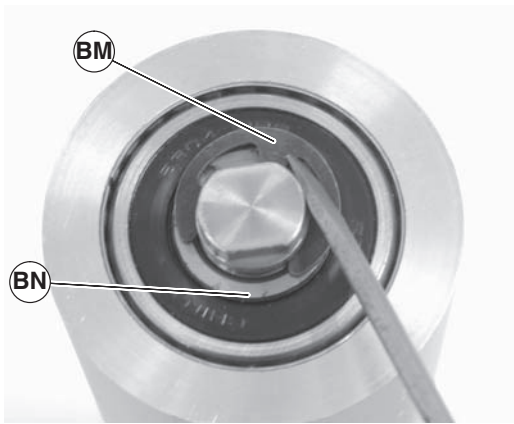

Figure 57
- Remove the pulley shaft assembly: remove the clip ring (Figure 57, item BM) and washer (BN) from one side of the pulley assembly.